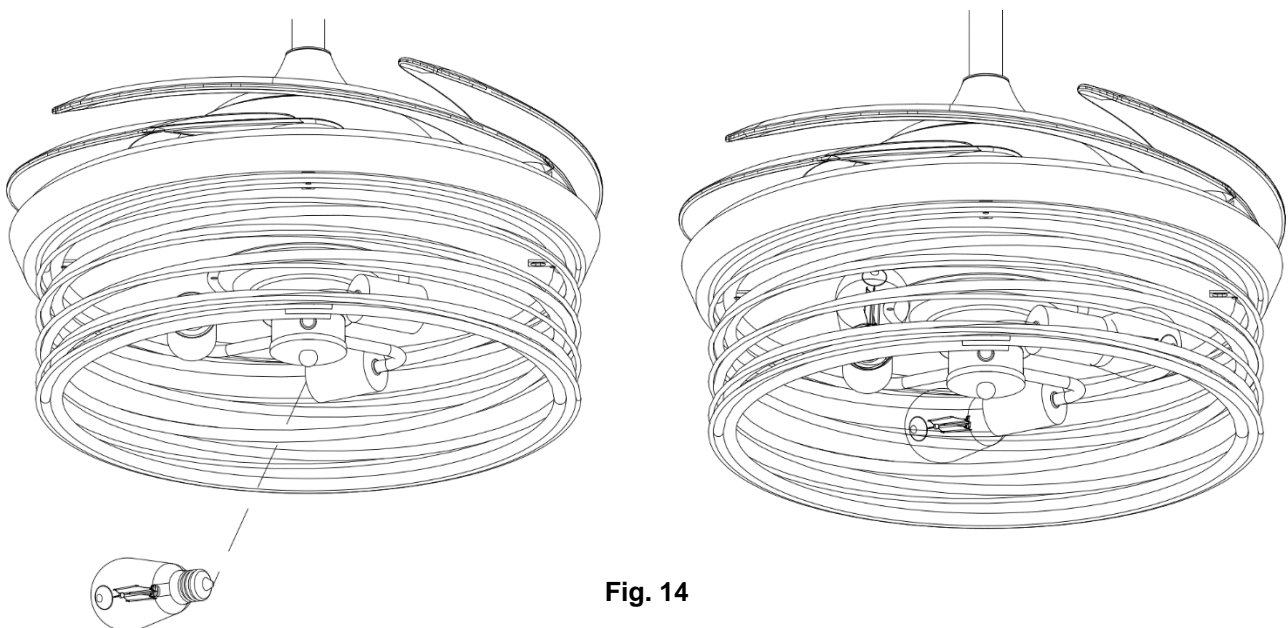

Fig. 14
6. Install the globes to the lamp holders. Do not exceed the maximum power rating. (Fig. 14)